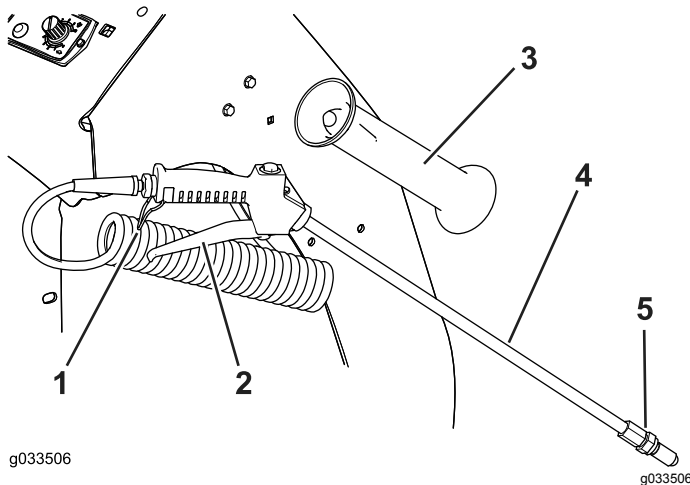

Figure 46
1. Remove the wand from the holder at the right side of the machine (Figure 46).
4. Squeeze the trigger to the spray-wand handle to begin spraying; lock the trigger in place if desired (Figure 46).
5. When finished spraying, if you locked the trigger of the spray-wand—unlock it, and release the trigger (Figure 46)
7. Insert the wand into the wand holder (Figure 46).